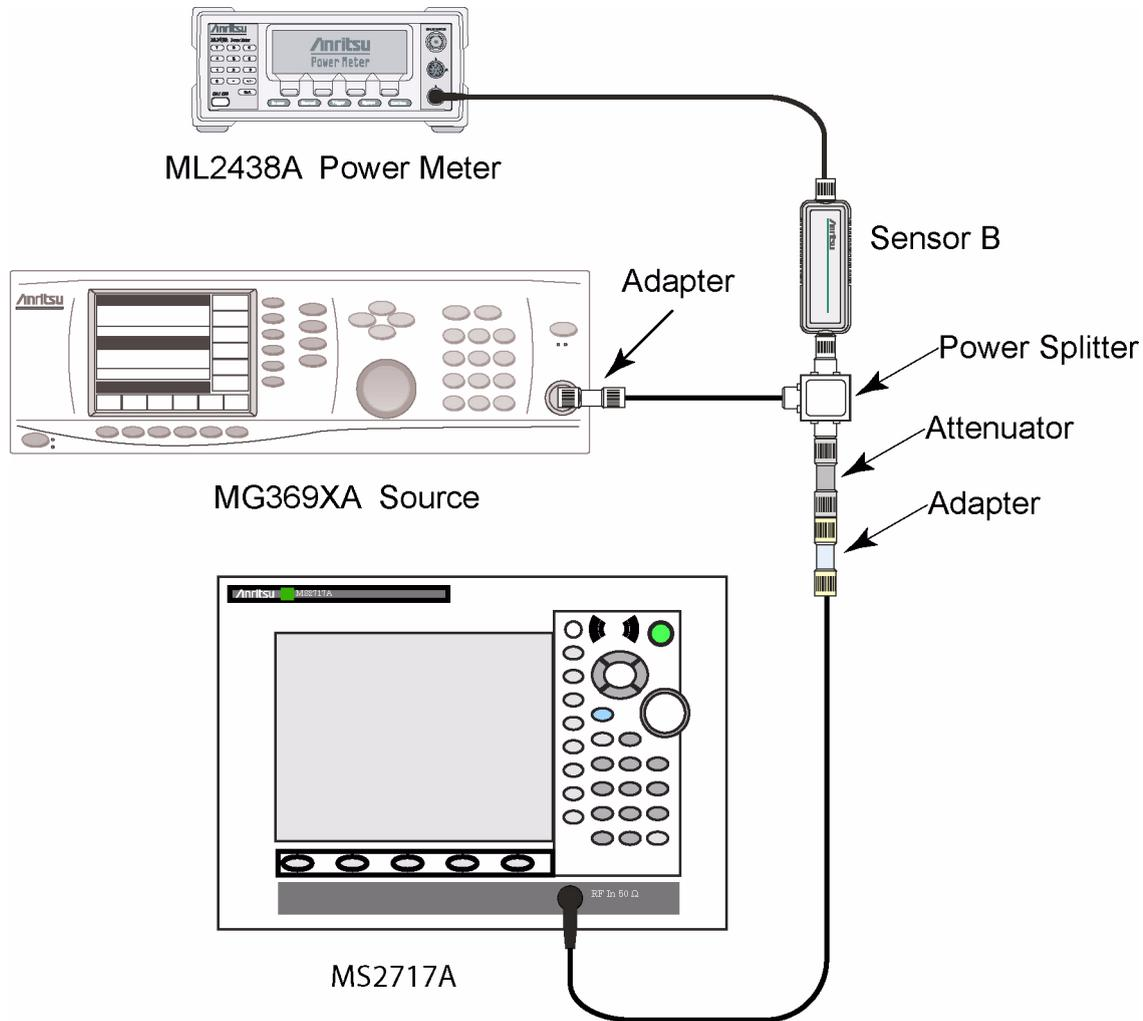

Figure 2-3. 50 MHz Amplitude Accuracy Test
1. Remove Sensor A, add the adapter, and connect the splitter and attenuator directly to the Spectrum Analyzer Input port on the MS2717A as shown in Figure 2-3.
1. Remove Sensor A, add an adapter to the attenuator, and connect the MS2717A to the adapter as shown in Figure 2-3 on page 2-18.
2. Press the **Shift** key, the **Preset** (1) key, and then the Preset soft key to reset the instrument to the default starting conditions.